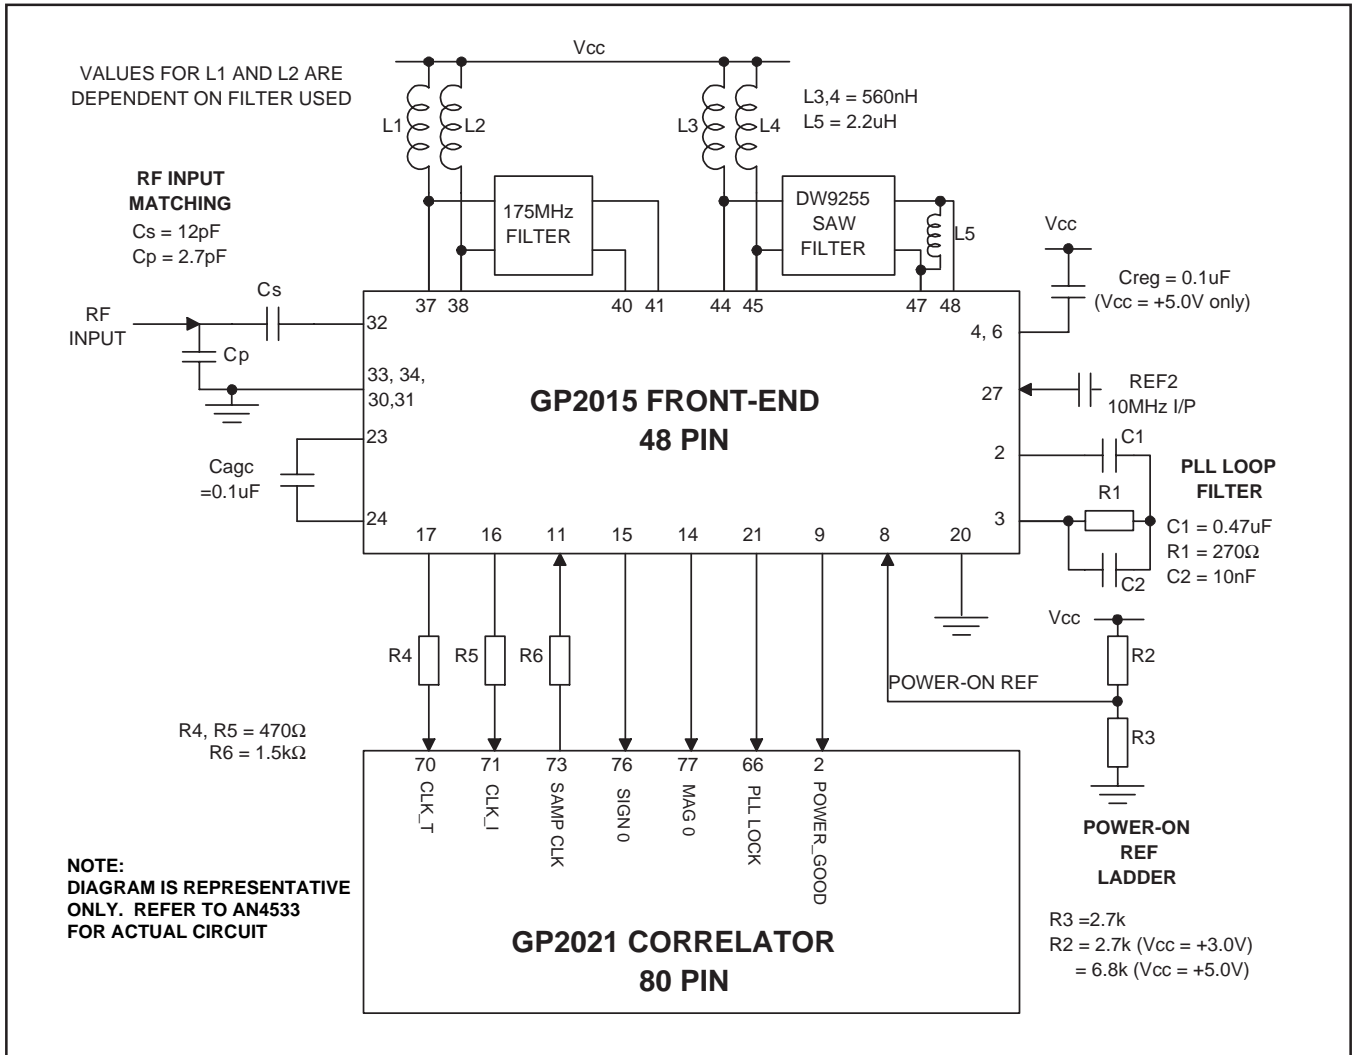

Fig. 4 GP2015 typical application
A typical application circuit is shown in figure 4 with the GP2015 front-end interfaced to the GP2021 12-channel correlator integrated circuit. The RF input has an unmatched input impedance (see page 4). The RF input matching components Cs and Cp should be mounted as close to the RF input as possible: also the Vee(RF) tracks must be kept as short as possible. A SAW filter may be used as a 175.42MHz filter, but this can be replaced by a simpler coupled-tuned LC filter if there is no critical out-of-band jamming immunity requirement. The DC bias to mixer 1 is provided via inductors L1 and L2, which may form part of the 175.42MHz filter. The output of mixer 2 requires an external dc bias, achieved with inductors L3 and L4, which also serve to tune out the input capacitance of the DW9255 SAW filter. The output of the SAW filter is tuned with inductor L5. Capacitor (Cagc) determines the AGC time-constant. The PLL loop filter components are selected to give a PLL loop bandwidth of approximately 10kHz. The IF Output is normally used for test-purposes only, but is available to the user if required. Typically a low noise preamplifier (gain >+15dB) is used between the